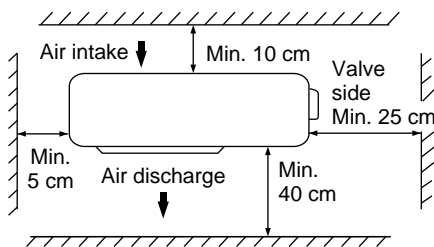

Fig. 4a
- allow enough room around the unit for air intake/exhaust and possible maintenance. (Figs. 4a and 4a)